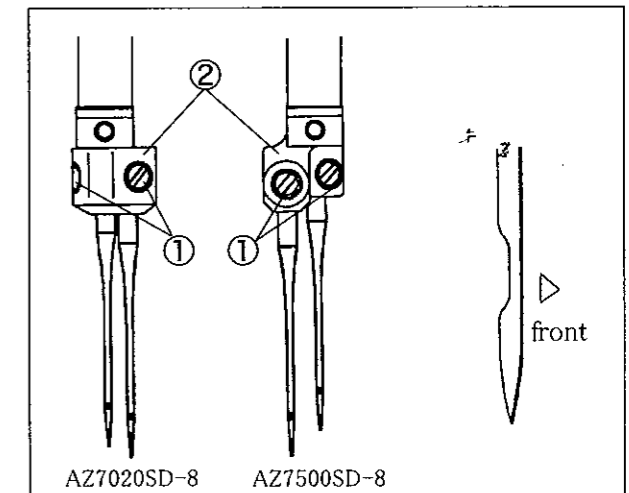
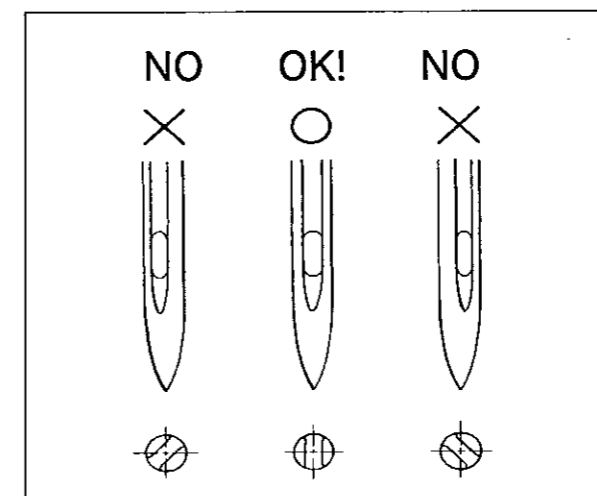

Fig. 5-1
Fig. 5-2
- (1) Loosen the screw with a minus screw driver. (Fig. 5-1)
- (2) Remove the old needle with a pair of tweezers.
- (3) Insert a new needle into the needle clamp ② as far as it goes with facing its scarf to the right back. (Fig. 5-2 and 5-3)
- (4) Tighten the screw ① with the minus screw driver.